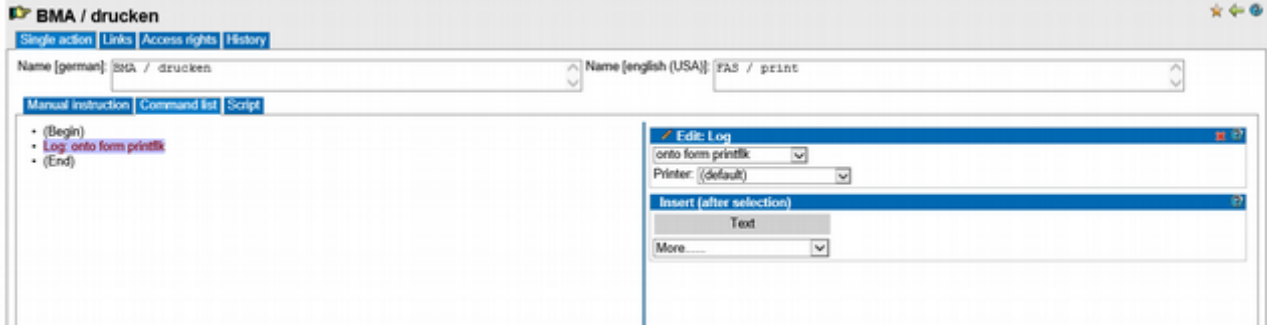

Figure 3.11: Example of printing fire detector positioning plans
2. In the single action, add an element "Logging" and select the form "Plan" from the form selection menu. (shown here as an example in Figure 3.11: the form printflk for the printing of fire detector positioning plans)